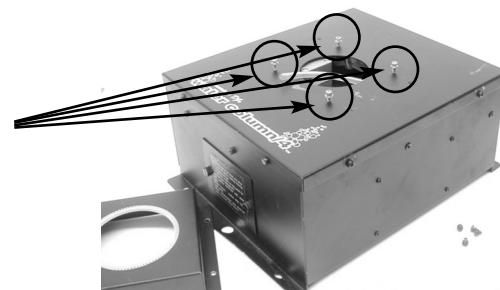

Figure 4
Removing the collar will expose four (4) more brass screws that are used to secure the water tube to the base, remove these four (4) brass screws as well (see figure 4).